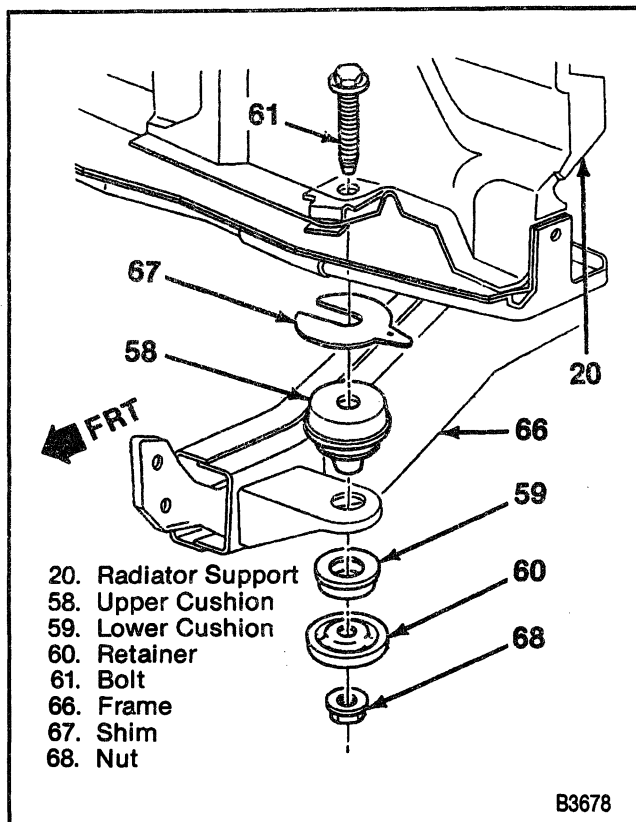

Figure 24—Radiator Support Mounting
- 20. Bolt holding the support mount to the vehicle (Figure 24).
3. Upper mounting cushion and shims between the support and the bracket on the frame (Figure 24).